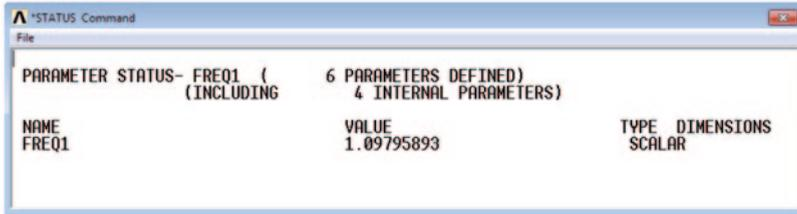

Fig. 8.84 First mode frequency for the automobile suspension system model
- Figure 8.84 shows the outcome of this action for *freq1*.